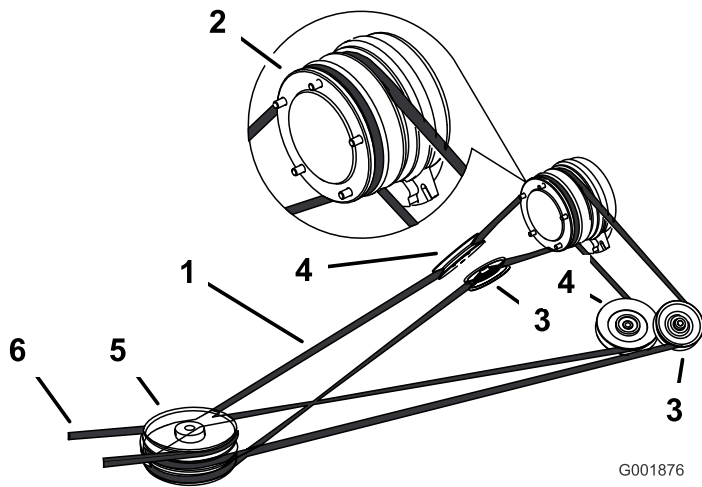

Figure 62
4. Pull on the spring loaded idler pulley to loosen the belt tension (Figure 62).
5. Remove the mower belt from the top pulley of the three stacked pulleys (Figure 60 and Figure 62).
7. Install the new drive belt around the clutch pulley, the adjustable idler pulleys, the spring loaded idler pulley, and the front three stacked pulleys (Figure 62).
9. Install the mower belt around the mower pulleys and the top pulley of the three stacked pulleys (Figure 60 and Figure 62).